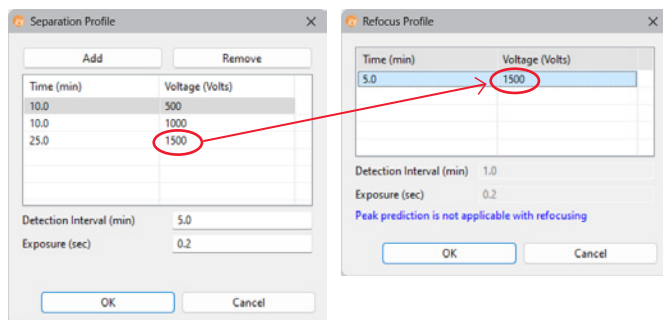

FIGURE 15. Inputting values for the Refocus Profile based on the final Focus Period in the Separation Profile.
6. Input the same voltage value that is used in the last focus period in the Separation step in the Refocus Profile window (FIGURE 15). Set the Refocus Time at 5 minutes.